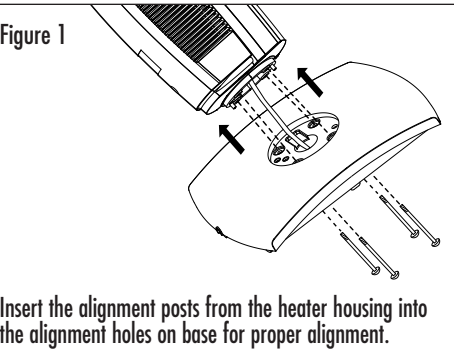

Figure 1
- Step 1: Run the power cord through the center of the base. To assemble the base to the unit, first make sure the side marked “Rear” is facing the back of the heater. Insert the alignment posts from the heater housing into the alignment holes on base for proper alignment. Line up holes of the base with holes on bottom of the heater housing, and secure with 4 provided screws. Refer to Figure 1.